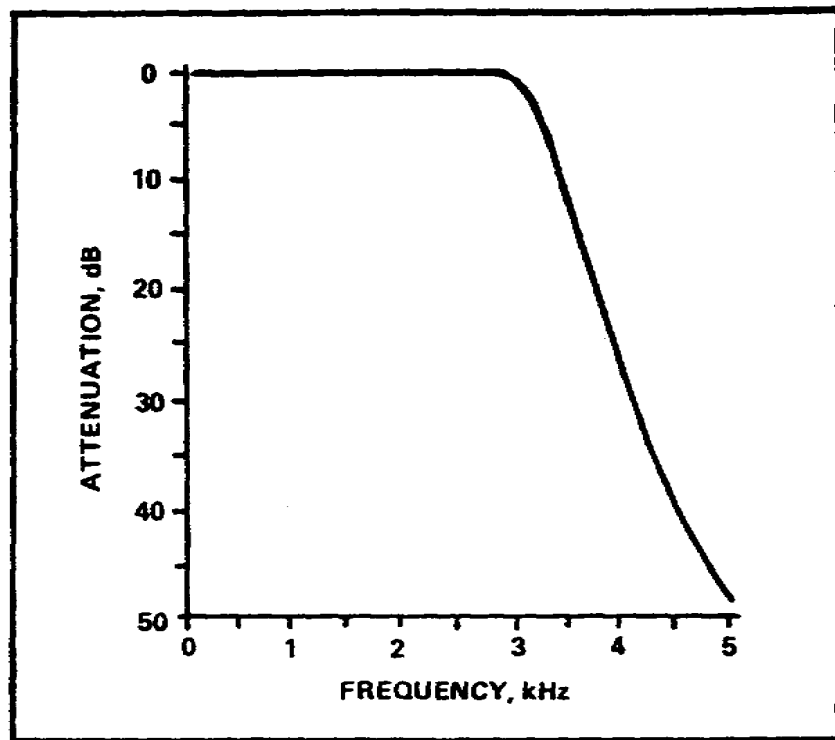

Figure 5-4. Attenuation. Attenuation versus frequency characteristics of a lowpass filter that might be used for communication purposes
3. Attenuation versus frequency characteristic. The attenuation versus frequency characteristic of a circuit is the amount of loss through the circuit as a function of frequency. The function is usually shown with the amplitude in decibels relative to a certain reference level on the vertical scale, and the frequency on the horizontal scale. Figure 5-4 illustrates the attenuation versus frequency characteristics curve for an audio low pass filter. This low pass filter was designed for use on an intelligibility enhancer for a voice-communications circuit.